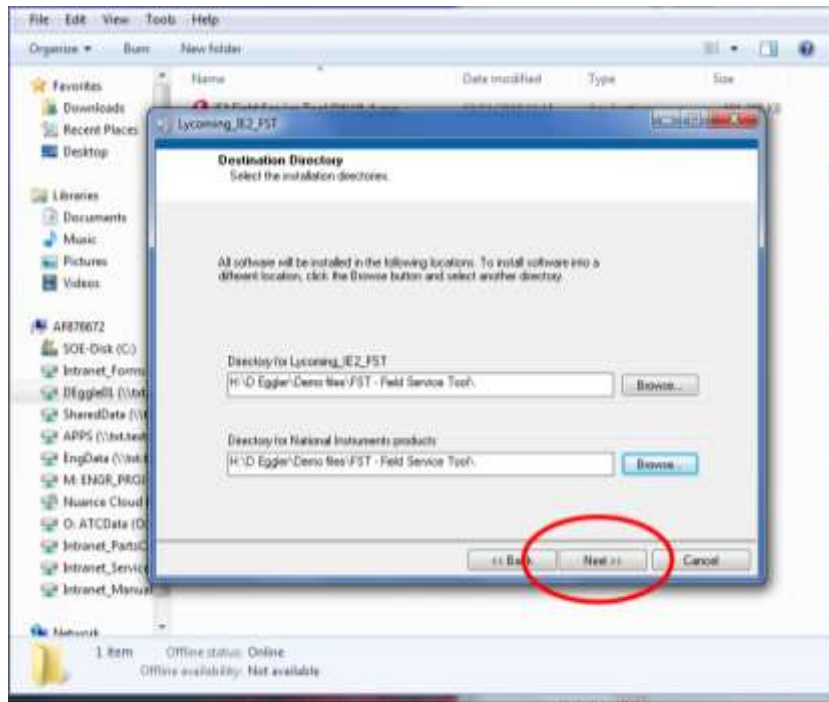

Figure C-15
- Choose the folder location for the software in the Destination Directory (Figure C-15), then click the **Next** button.